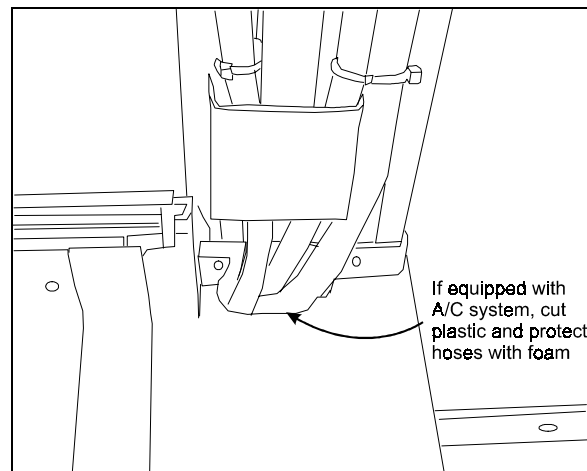

FIGURE 9
6. The duct end might have to be trimmed for hoses if parcel rack A/C option was chosen (refer to fig. 9).